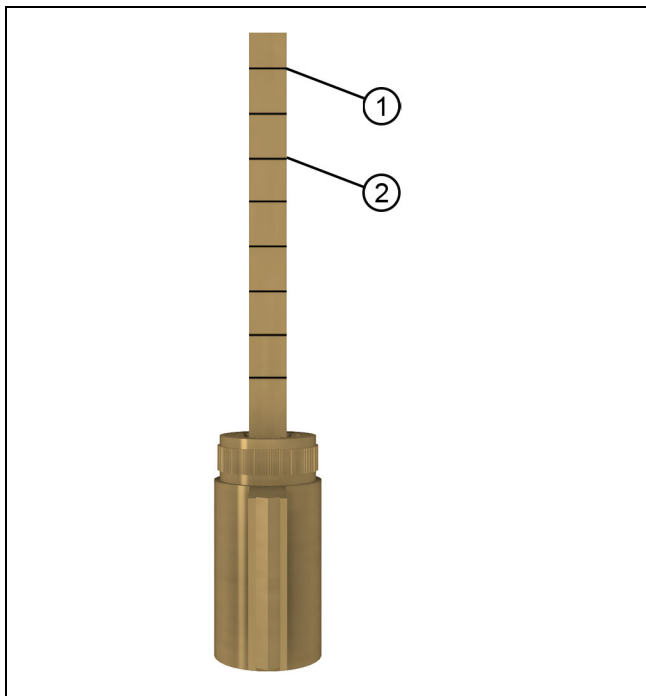

Figure 1
1. Before installing the lock cylinder you will need to trim the tail piece to the appropriate length. Refer to Figure 1 for the correct location based on your door configuration.